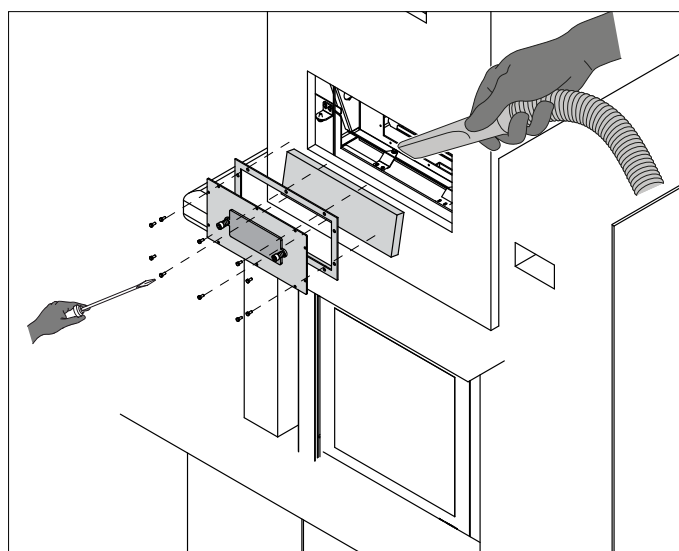

fig. 6.2
- Access the flue inspection compartment by unscrewing the screws of the safety valve (fig. 6.2) and remove the magnofix smoke baffle; check the conditions of the seal and replace it if necessary.